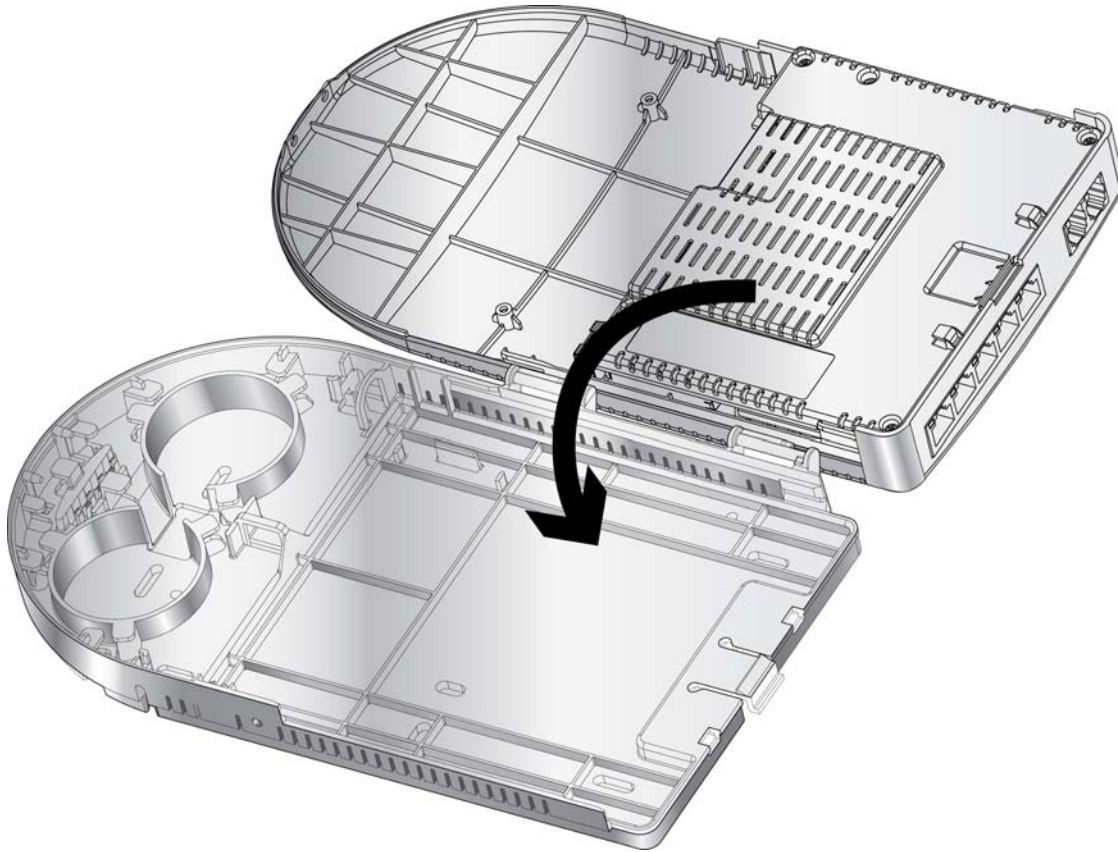

Figure 9: Rotating the electronics into place.
7. To secure the electronics unit to the base, first rotate the electronics down on the base. (Figure 9)